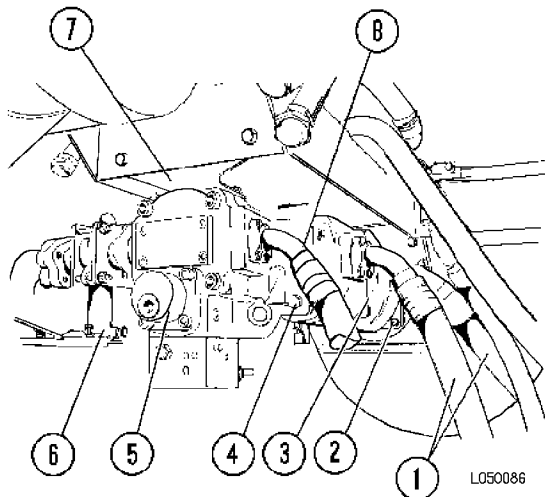

FIGURE 5-23. STEERING PUMP REMOVAL
NOTE: If oil in the hydraulic tank has not been contaminated, the shut-off valve (6, Figure 5-23) between the tank and steering pump can be closed, eliminating the need to completely drain the tank.
3. Disconnect the suction and discharge lines at the steering pump (5, Figure 5-23). Disconnect and cap pump case drain line from fitting at top of pump housing. Plug all lines to prevent oil contamination.